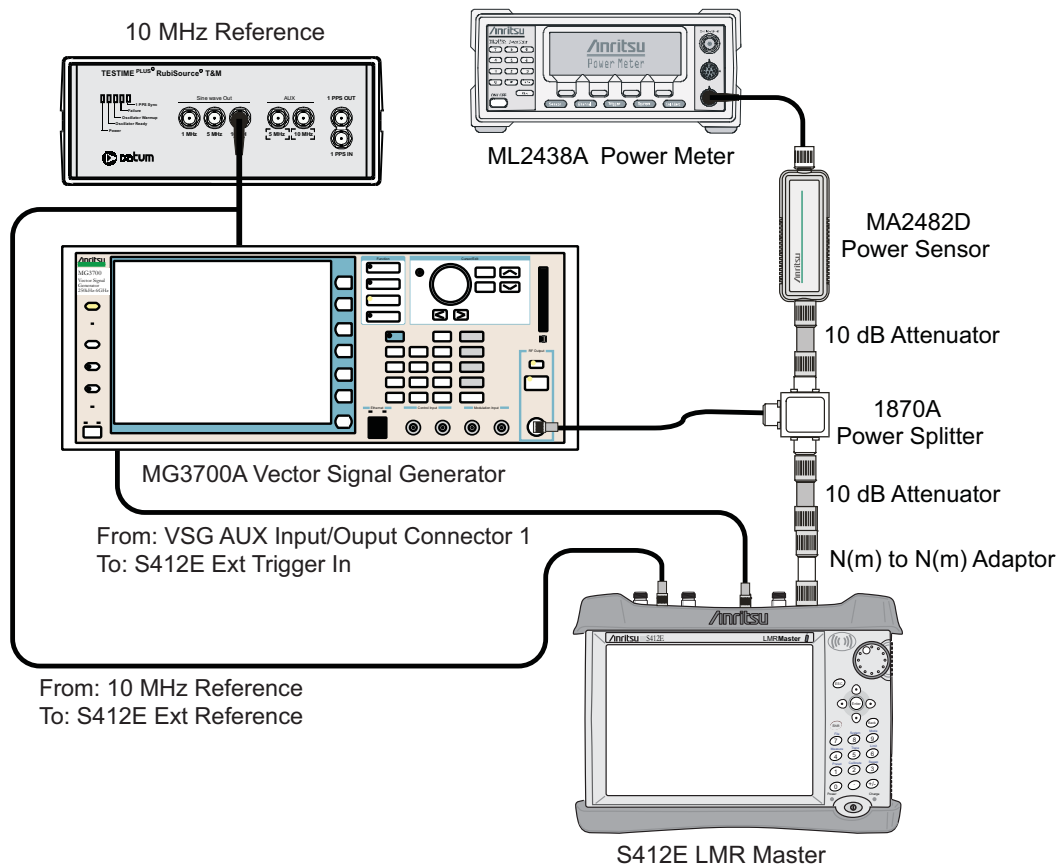

Figure 5-1. Fixed WiMAX Signal Analyzer Option Verification
3. Connect the equipment as shown in Figure 5-1.